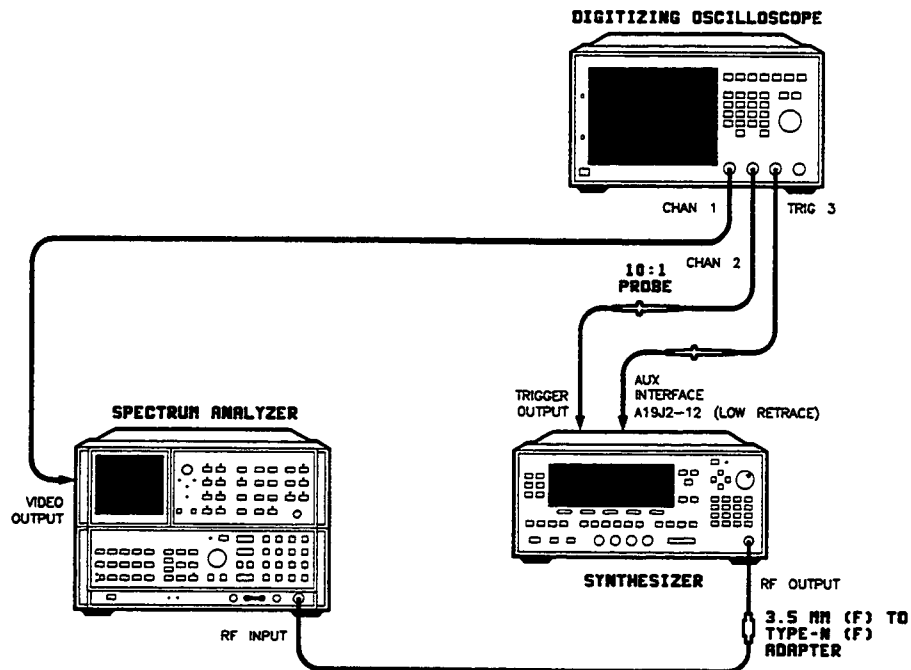

Figure 2-2. Swept Frequency Accuracy Test Setup
1. Connect the equipment as shown in figure 2-2. Preset all instruments and let them warm up for at least one hour.